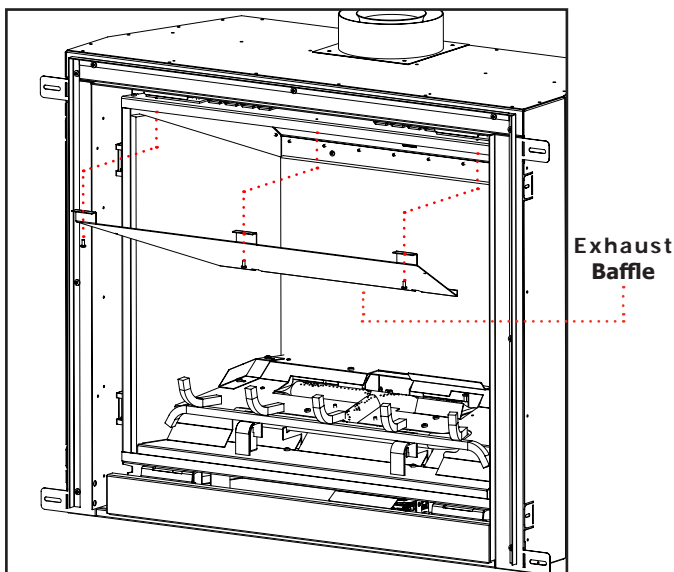

Figure 25b.
Step 3. Using T20 screwdriver remove the X3 fasteners securing the exhaust baffle in place. Fig.25b
Step 8. Using X3 T20 screws secure front of Exhaust Baffle to the underside of the firebox. Fig 25b.